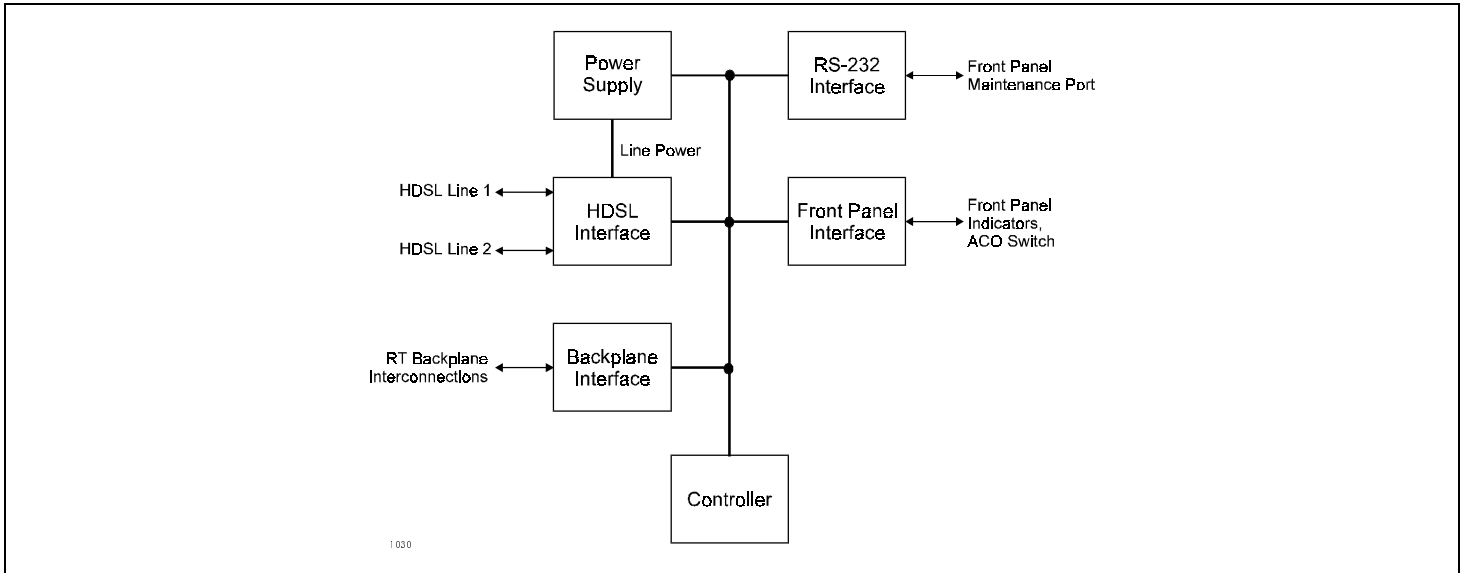

Figure 3. FRL-746 Block Diagram.
6.01 The FRL-746 RT Line Unit includes a remote (line-powered) power supply, HDSL line transceivers, performance status indicators, and RS-232 Maintenance Port (see Figure 3). Through the Maintenance Port, the system configuration and status may be checked and HDSL performance monitored.